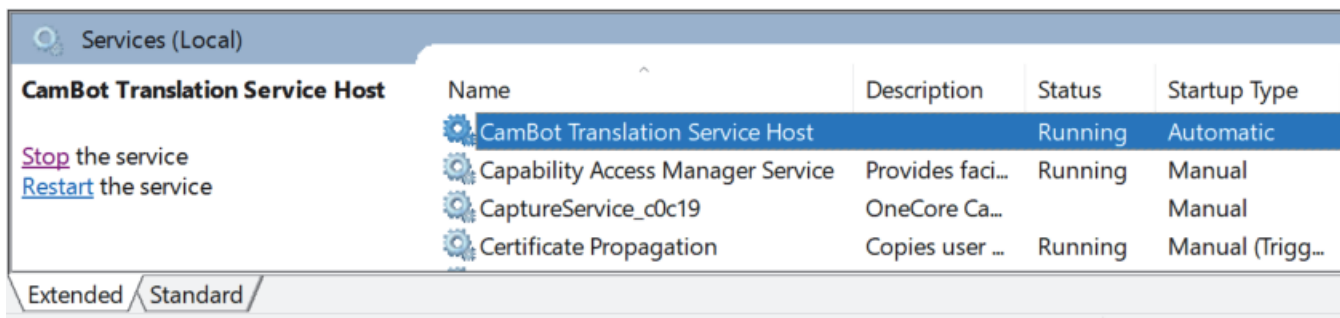

Figure 11 - Selecting the CamBot Translation Service Host
- c. Find and select the **CamBot Translation Service Host** service. See **Figure 11**.